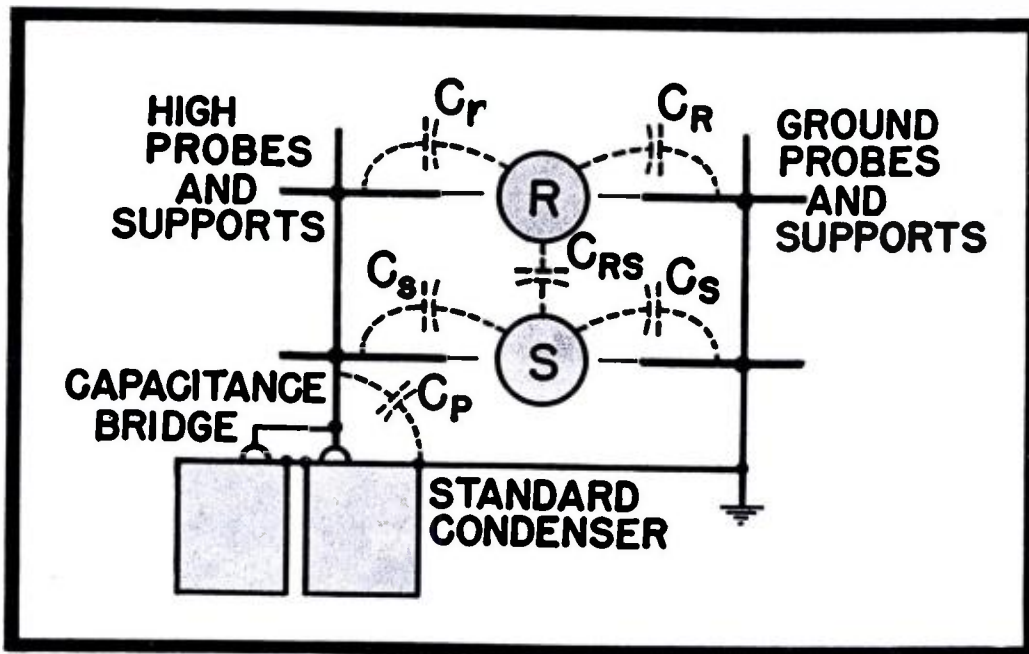

Figure 1
The parallel substitution method, in which only the standard capacitor is adjusted after an initial balance, is shown in Figure 1. The formulas are derived from this circuit, but the resulting equations can be used with data taken by direct measurement on a capacitance bridge. Rugged construction must be used in mounting the probe supports on the grounded table top and on the high terminal of the bridge and standard capacitor. (One high probe and one ground probe are supplied for each electrode in the multi-electrode system.) All probes must remain as nearly undisturbed as
Let us now refer to Figure 1. To make the measurement equations valid all electrodes except any pair such as R and S must be grounded. The notations to be used are:
- C , the largest setting of the standard capacitor for balance, obtained with all probes retracted as in Figure 1.
the capacitance setting of the capacitance bridge. C^r , C^s , C^R , C^{RS} , C^B , C^{rB} and C^{Bs} , all possible settings of the standard capacitor for balance under the respective conditions in which the capital superscripts indicate connections of ground probes to the electrodes and the lower case superscripts indicate connections of high probes to the electrodes. The above superscripts correspond to the subscripts of Figure 1.